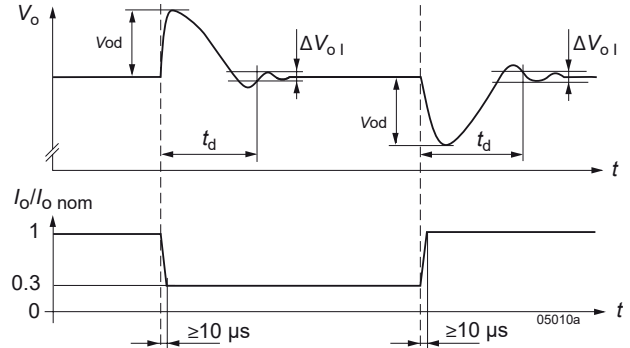

Fig. 5
- Condition for specified output. With multiple-output models, other output(s) loaded with constant current $I_{o, \text{nom}}$. See fig. 5 Dynamic load regulation.
- Condition for non-specified output, individually tested, other output(s) loaded with constant current $I_{o, \text{nom}}$. See fig. 5 Dynamic load regulation.